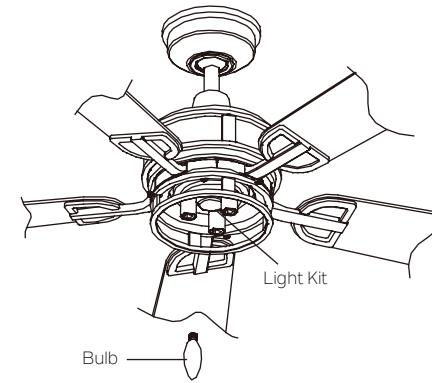

Fig. 25
Step 1. Install the 3, 4-watt B10 LED bulbs (included). (Fig. 25)